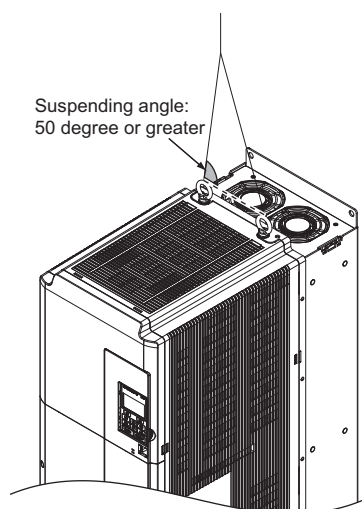

Figure 10 Drive Suspension Using Wires and Eye Bolts (2□0028)
**WARNING! Crush Hazard.** Use an adequate length of wire to ensure a 50° or wider suspension angle as illustrated in Figure 10. The maximum allowable load of the eye bolts cannot be guaranteed when the drive is suspended with the wires at angles less than 50°. Failure to comply may result in serious injury or death from falling equipment.